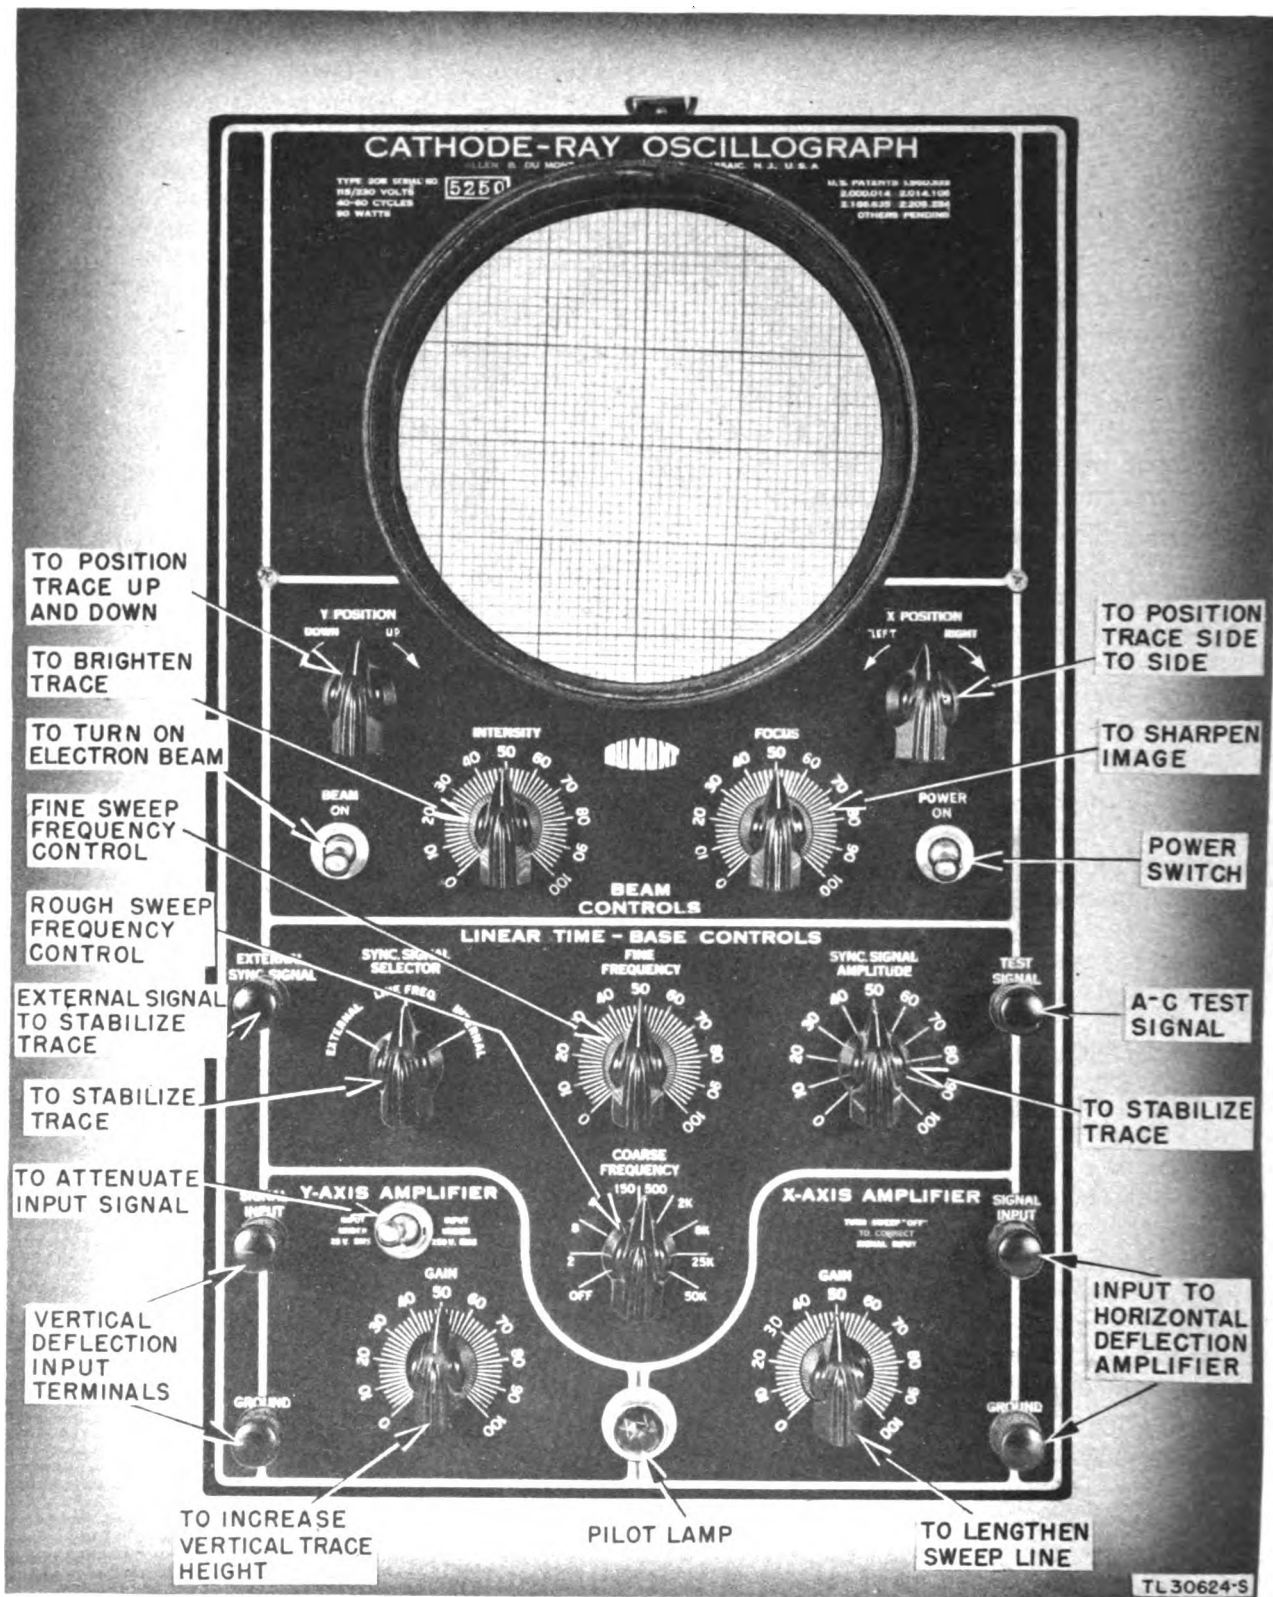

Figure 65. DuMont type 208 oscilloscope.
(3) It is sometimes desirable to know definitely whether a signal voltage is getting to the grid of the first tube in a channel. If a test jack is not provided, remove the first tube in the channel to make the grid connection of the tube available from the top of the chassis. Insert the test lead of the oscilloscope in the grid connection of the tube socket.
**NOTE:** DuMont type 208 oscilloscope, supplied with Radio Set SCR-784, is used when trouble shooting Radio Equipment RC-384. The terminology in this manual for test oscilloscope controls applies to this oscilloscope. See figure 65 for description of the controls.